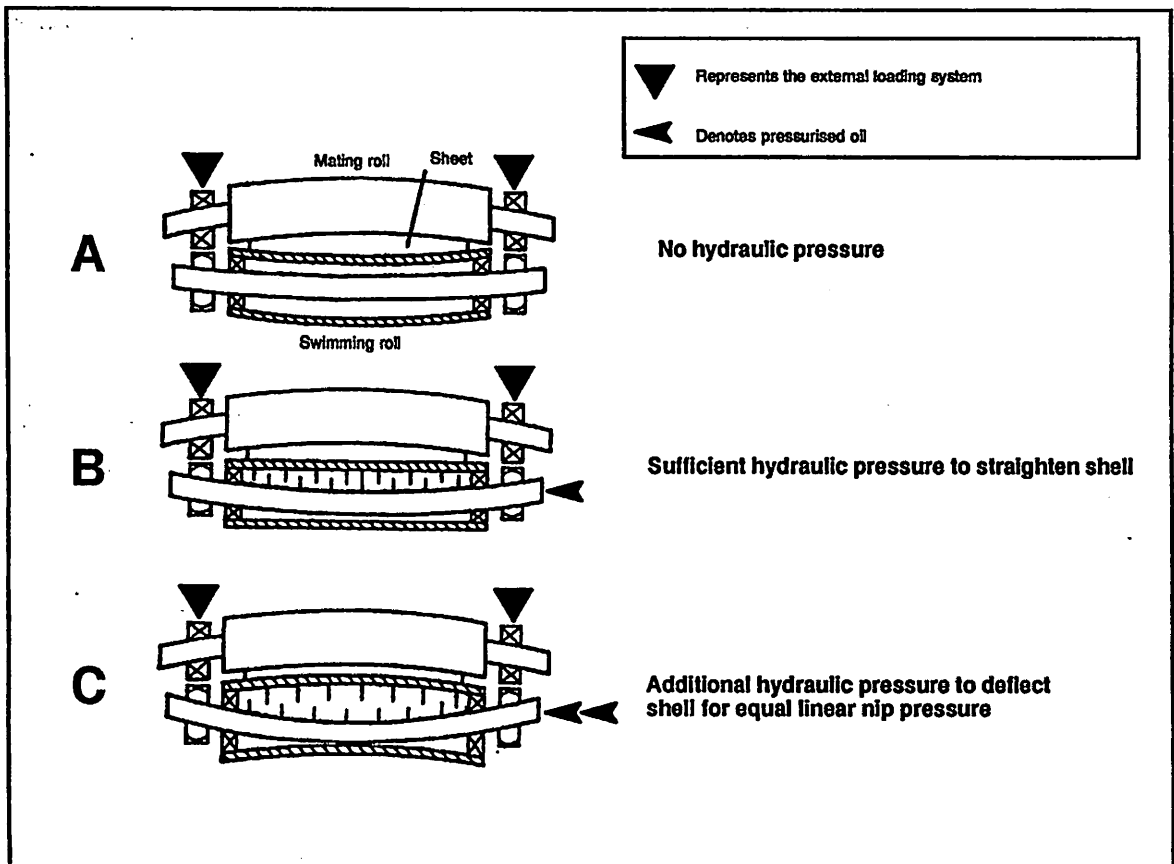

Fig 2
3. The Swimming roll in operation (Fig 2)